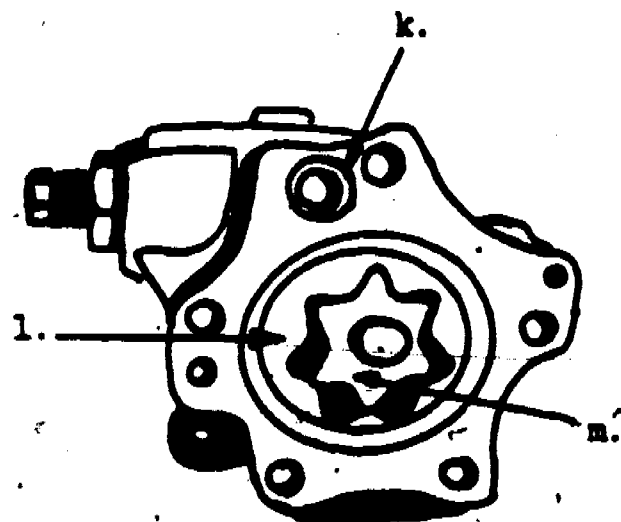

Figure 5
STEP 13. Remove and discard "O" ring seal from body (Item k in Figure 5).
STEP 15. Remove the outer rotor (Item l in Figure 5).
STEP 16. Remove the inner rotor (Item m in Figure 5).